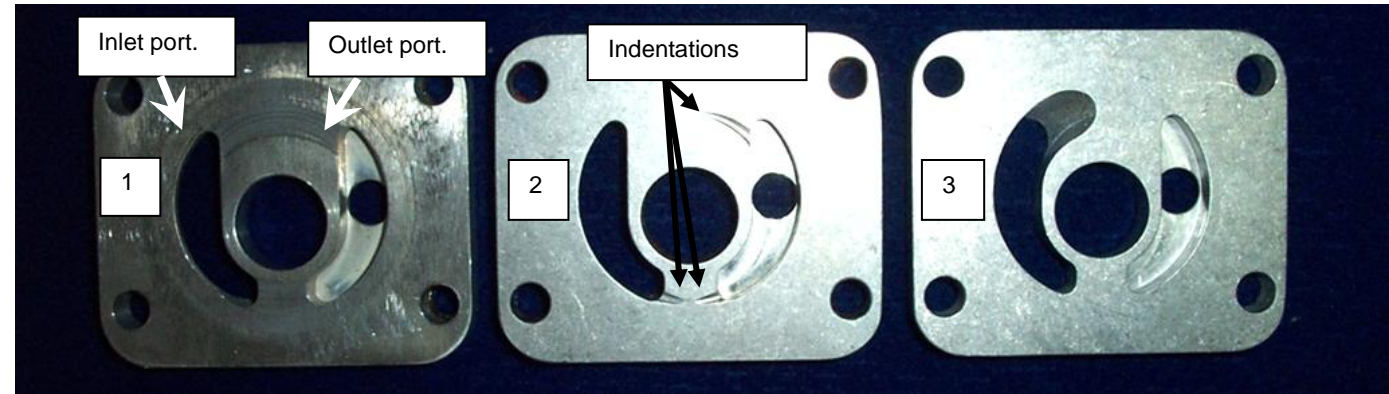

Figure 78 – Port Plate Evolution
- Figure 78 above shows 3 different styles of oil pump port plate.